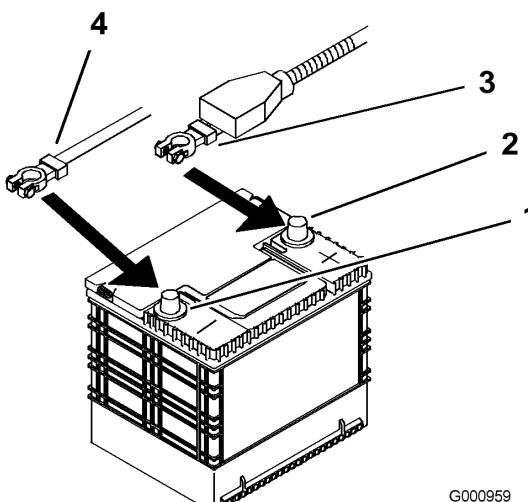

Figure 38
4. First disconnect the negative battery cable from the negative (-) battery terminal (Figure 38).
5. Slide the red terminal boot off the positive (red) battery terminal. Then remove the positive (red) battery cable (Figure 38).
4. Secure the cables with 2 bolts (1/4 x 3/4 inch), 2 washers (1/4 inch), and 2 locknuts (1/4 inch) (Figure 38).